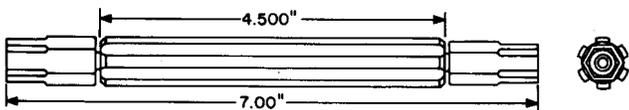

Fig. 5—216C Hex, Double-End Socket Wrench
2.05 **216C:** The 216C tool (Fig. 5) is equipped with a 3/8-inch socket on one end and a 7/16-inch socket on the other end. The 216C tool is used for placing fuses in cable terminals.